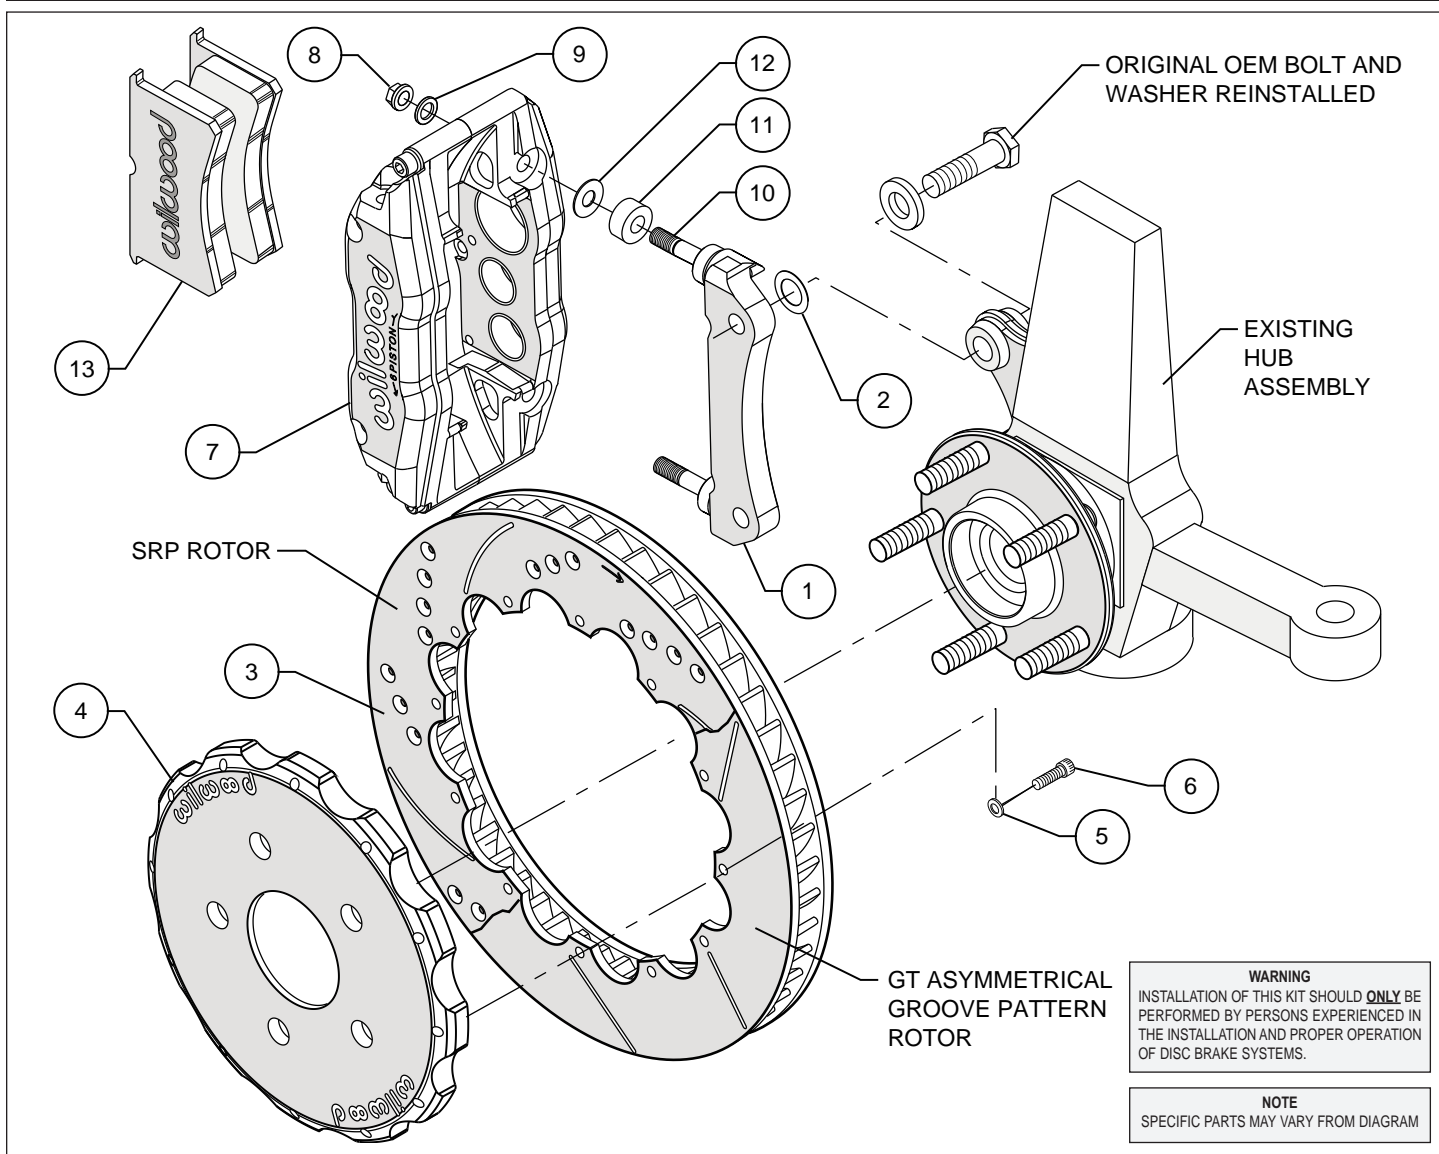
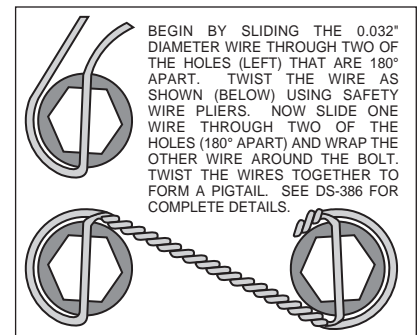

Figure 1. Typical Installation Configuration
Figure 3. Safety Wire Diagram
- Assemble the rotor (3) to the hat (4) with the bolts (6) and washers (5) provided in the configuration pictured in Figure 1. Be sure all bolts thread in smoothly and are snug. Then, torque all bolts in an alternating sequence to 85 **in-lbs**. The rotor mounting bolts (6) must be lockwired using standard 0.032 inch diameter stainless steel safety wire as shown in Figure 3. Please refer to Wilwood's data sheet DS-386 (available at [www.wilwood.com/pdf/ds386.pdf](http://www.wilwood.com/pdf/ds386.pdf)) for complete safety wire installation instructions.
- **NOTE:** Please reference the caution statement at the beginning of the assembly instructions. Install spacer (11) and one shim (12) over each stud (10) on the radial mount bracket (1). Slide the caliper (7) in place over the studs and rotors and install the washer (9) and lock nut (8) to hold the caliper in place. The caliper bleed screws should be pointing up. Snug the lock nuts (8) and check that the rotor (3) is centered in the caliper (7). Add or subtract .035" shims (2) as necessary between the mount bracket and the spindle to center the caliper.
- Remove the caliper center bridge pad retainer bolt, nut, and tube from the caliper. Slide the brake pads (13) into place. They should install easily without interference. Check that the outside radius of the brake pad is aligned with the outside diameter radius of the rotor face. Add or subtract shims (12) between the caliper (7) and spacer (11) on the mount bracket (1) to gain the proper alignment. Reinstall the center bridge pad retainer tube, bolt, and lock nut. The locknut should be snug without play in the bolt or tube. Be cautious not to over tighten.
- Once all clearances have been checked, remove the wheel, caliper, hat, and rotor from the spindle and hub. Secure the caliper mounting bracket (1) to the spindle using red *Loctite*® 271. Torque the bolts to 65 ft-lbs. Reinstall the hat and rotor assembly and again use several lug nuts to hold it in place. Lubricate caliper mounting studs and nuts with lightweight oil, reinstall the caliper, torque the caliper nuts (8) to 30-35 ft-lbs.